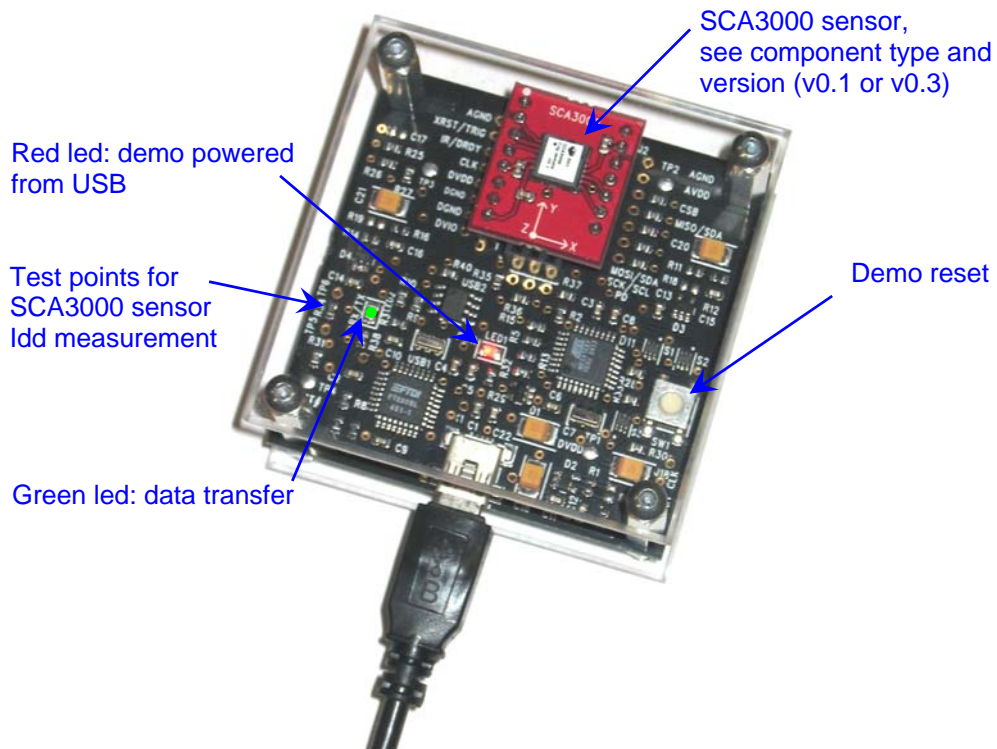
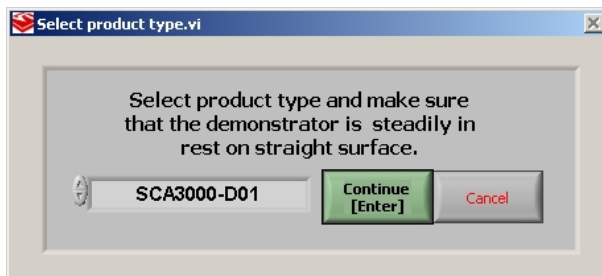
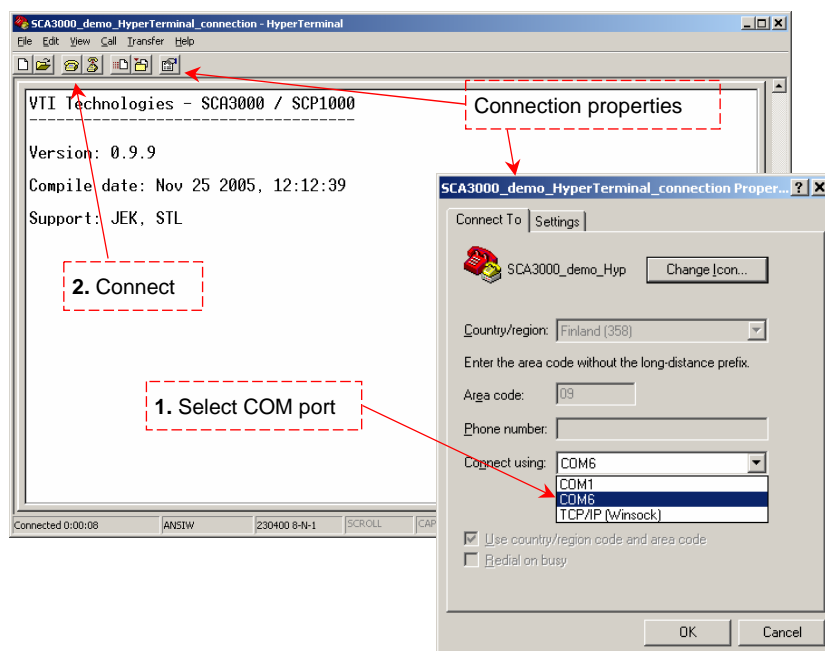

Figure 1 SCA3000 demo USB interface board and SCA3000 PWB.
Figure 4 Product selection pop-up window.
Figure 12 Windows HyperTerminal with SCA3000 demo info text.
The SCA3000 demo USB interface board (black) and SCA3000 PWB (red) are shown in Figure 1. The interface card converts the USB interface to SPI or I²C interface. SCA3000 sensor is soldered on PWB which is connected to interface board.
User needs to select correct product type from **PRODUCT SELECTION** pop-up window (Figure 4). SCA3000-D01 is selected by default, product type can be found from top SCA3000 component, see Figure 1.
μ C can be resetted by exiting from the GUI and then pressing the reset button (Figure 1) on USB interface board.
3. Press demo reset button (see Figure 1). SCA3000 demo sends info text to HyperTerminal (see Figure 12). If HyperTerminal software is unable to connect the SCA3000 demo or the info text does not appear,
until info text appears to HyperTerminal screen (see Figure 12).
- Stop the GUI software, press the reset button program on demo USB interface board (see Figure 1), start GUI again.